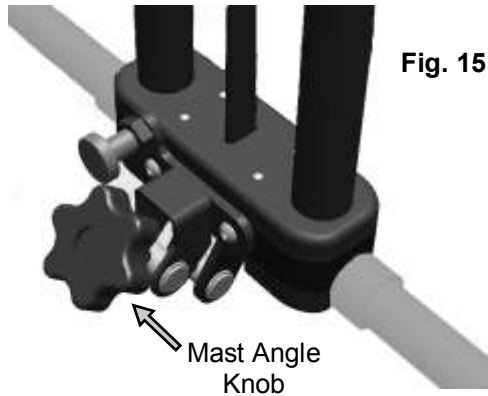

Fig. 15
- Turn the Mast Angle Knob (fig. 15) clockwise for more forward (anterior) angle and counterclockwise for rearward (posterior) angle.